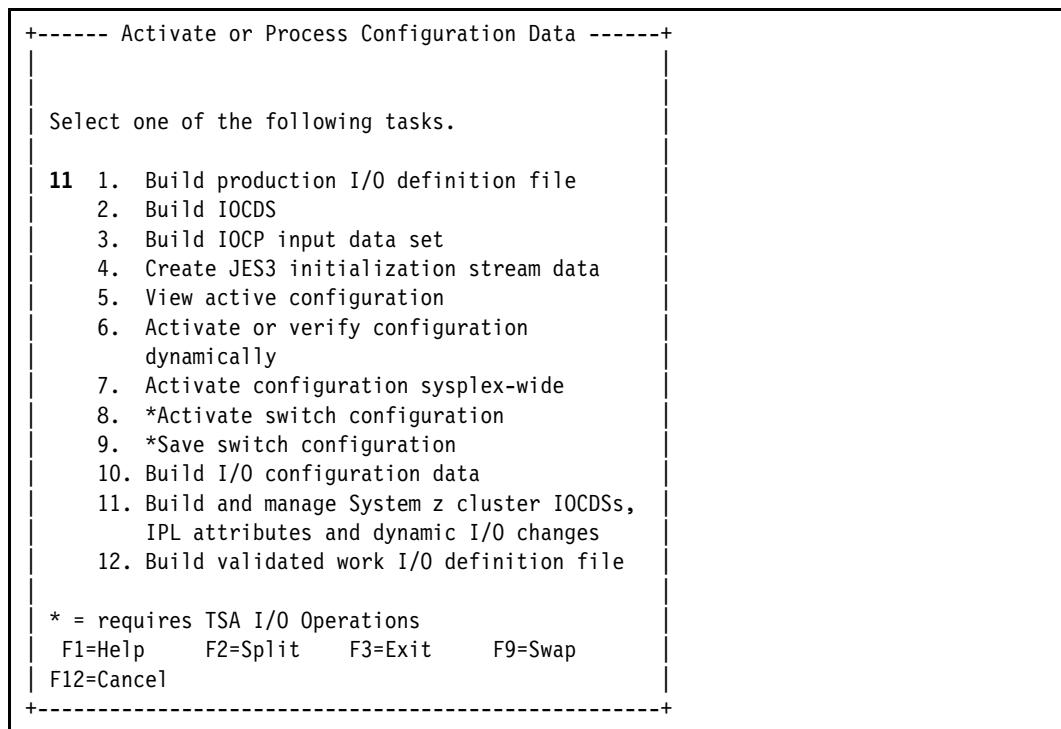

Figure 5-7 Activate or Process Configuration data: Build and manage System z cluster IOCDSSs, IPL attributes and dynamic I/O changes
2. The Activate or Process Configuration Data panel opens (Figure 5-7). Select option **11. Build and manage System z cluster IOCDSSs, IPL attributes and dynamic I/O changes**, and press **Enter**.